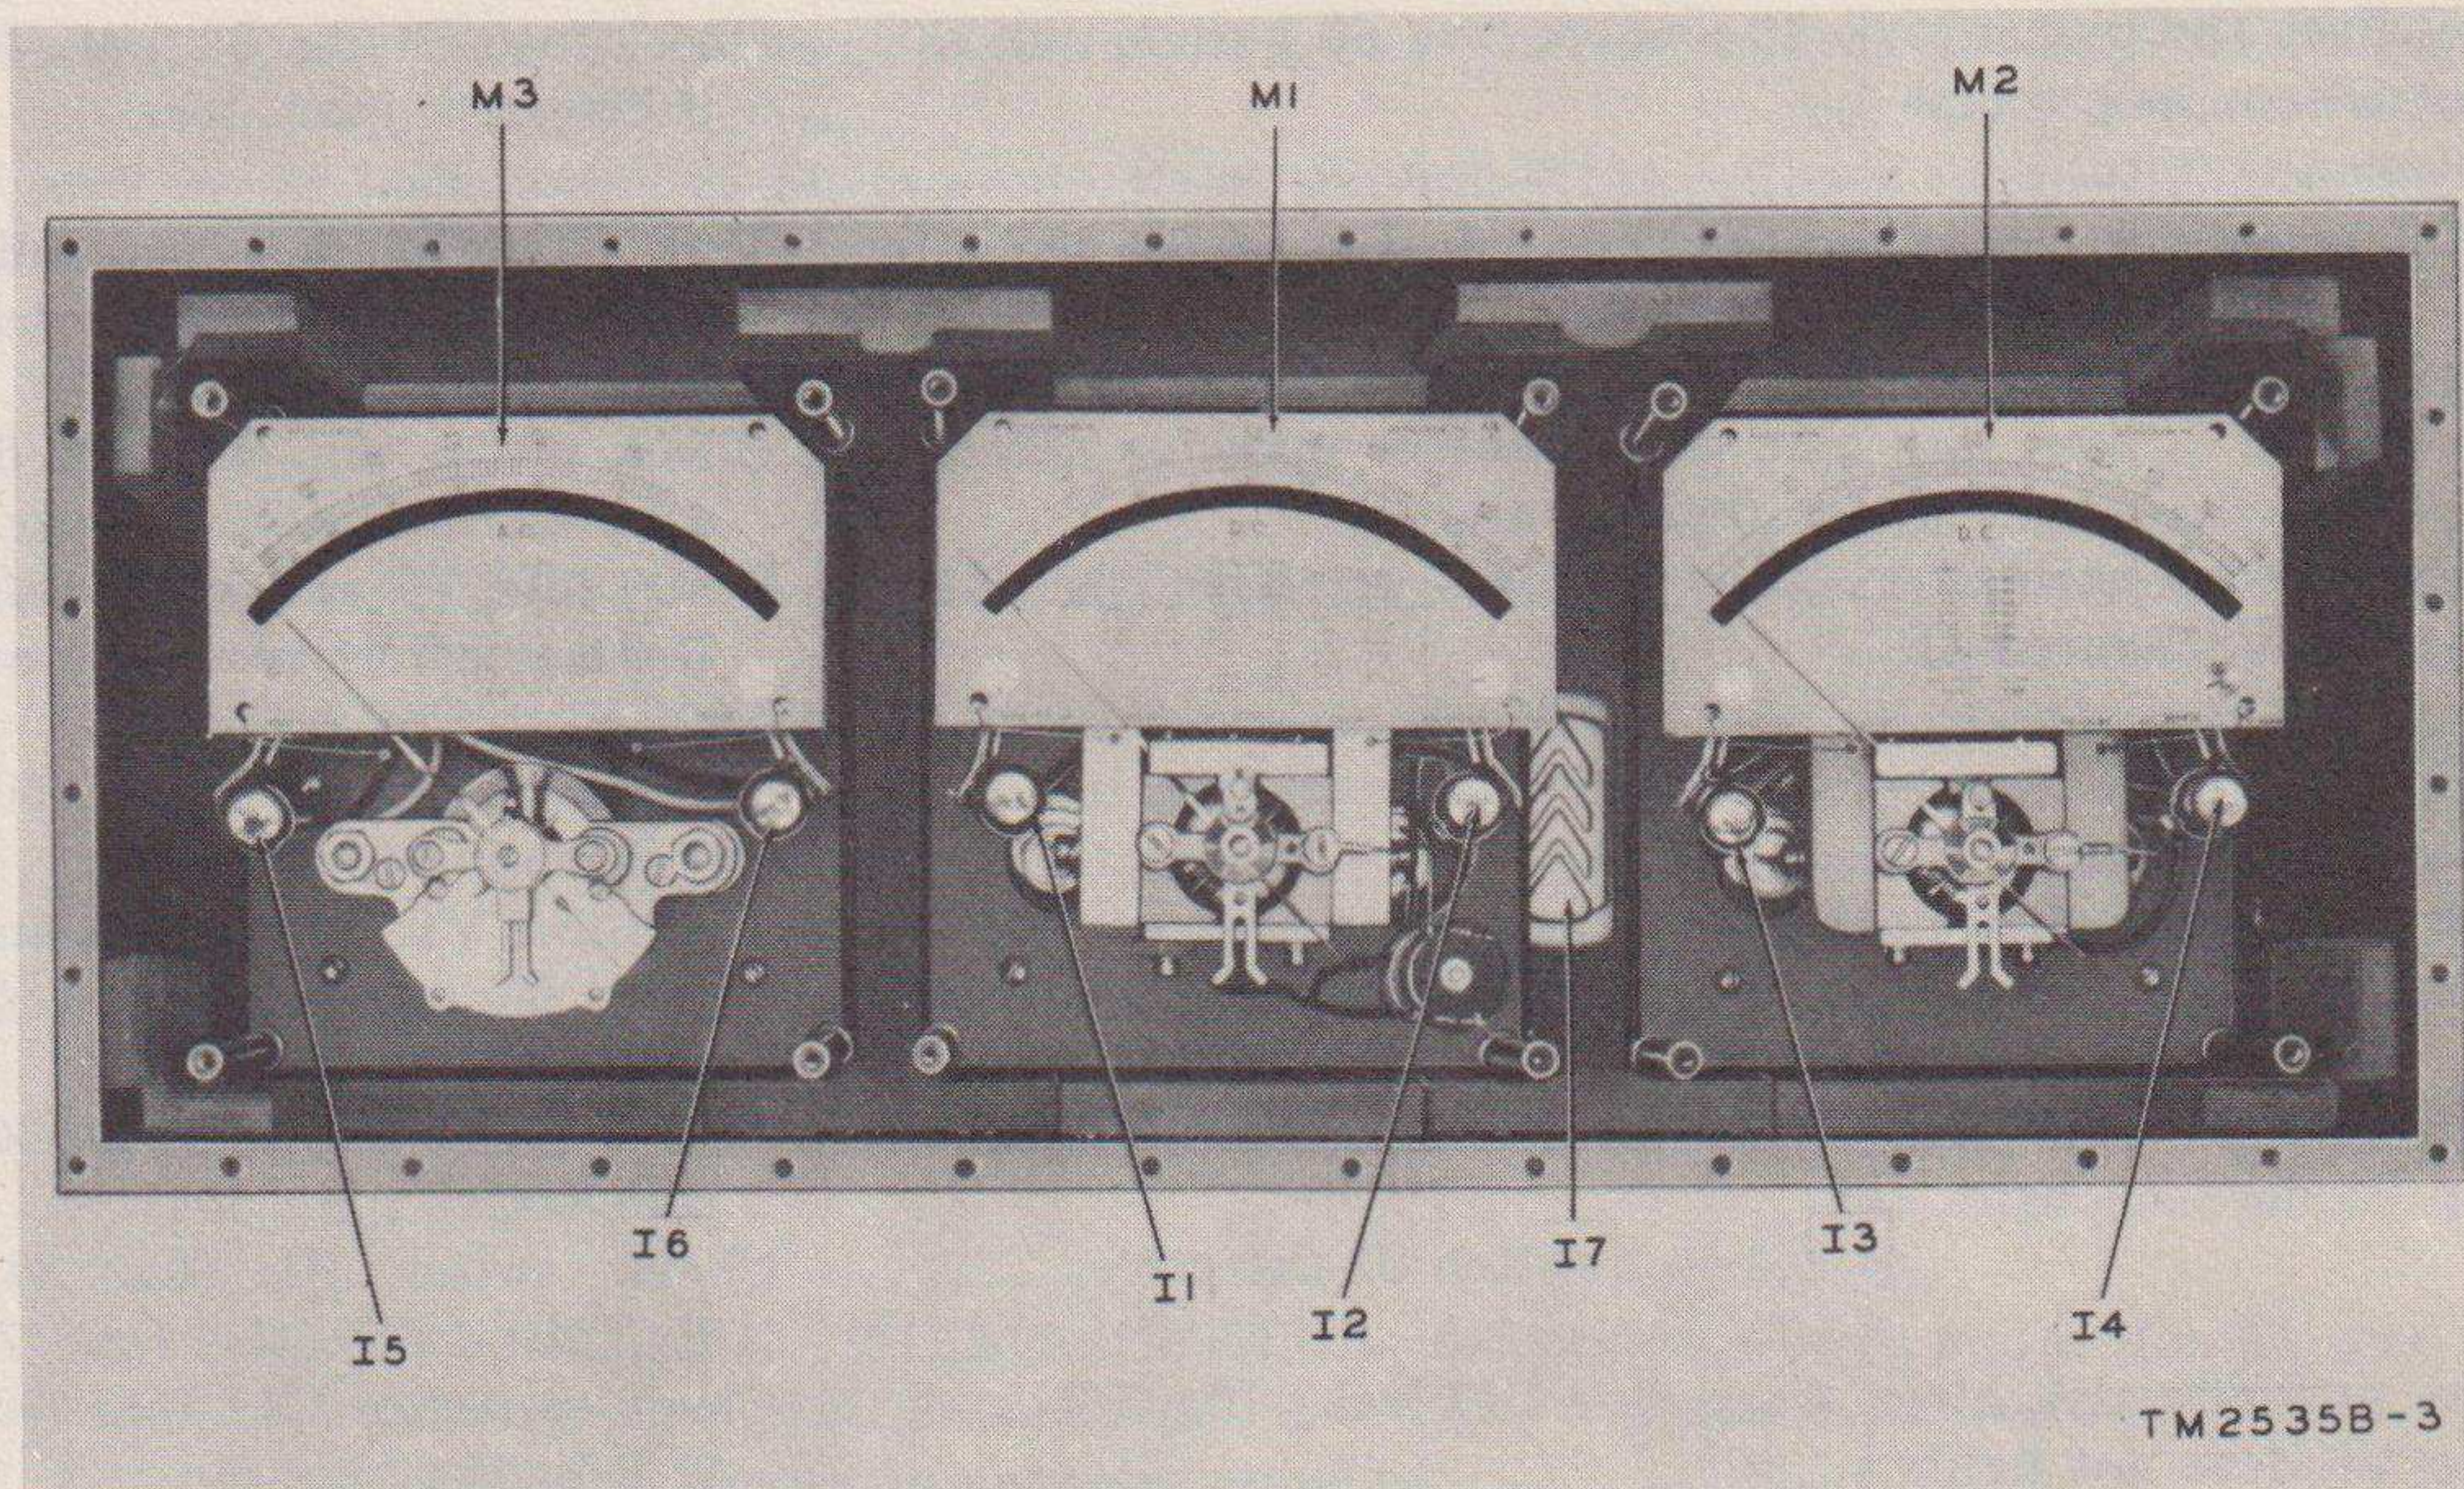

Figure 31. Meter panel of test set, cover removed, front view.
AC MILLIAMMETER defective (figs. 27 and 28).	Check meter (fig. 31, par. 66k). Replace if defective (par. 70a).
Meter defective (fig. 29)-----	Check meter M3 (fig. 31, par. 66k). Replace if defective (par. 70a).
Ac milliammeter open or defective (figs. 15 and 16).	Check meter (fig. 31, par. 66k). Repair open or replace meter (par. 70a).
b. Remove the metal cover plate on the meter box by removing the 38 machine screws (fig. 31).